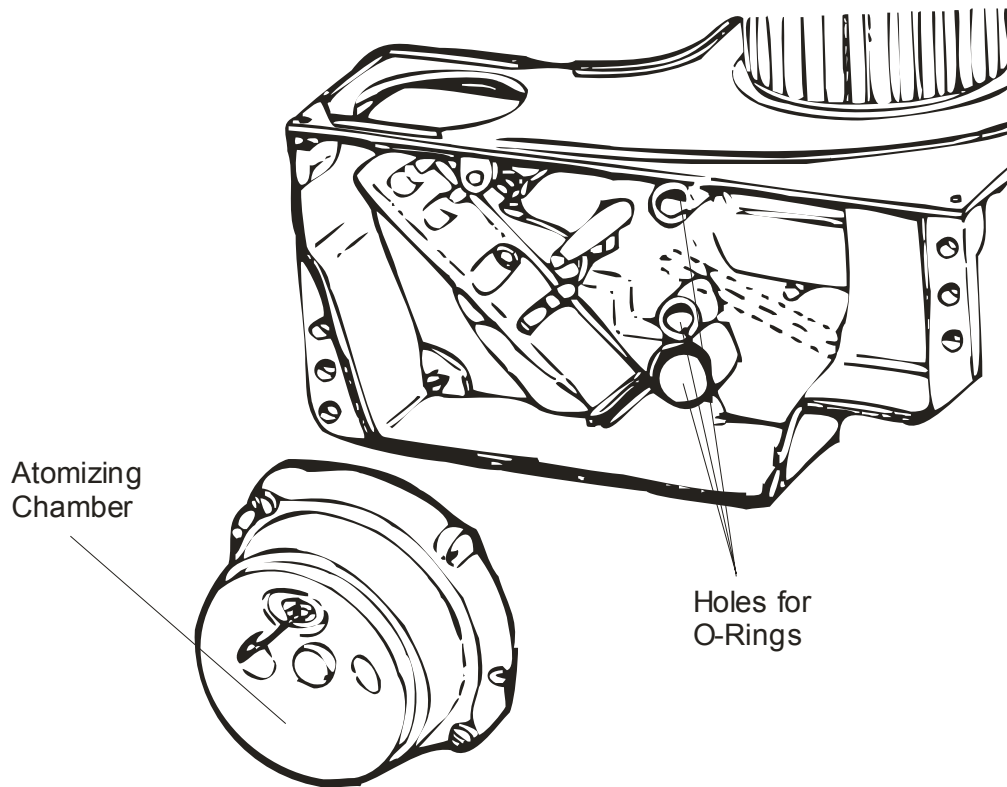

Figure 5-11. Atomizing Chamber Removal
- c. Step 3. Remove the atomizing chamber (figure 5-11) and store in a clean container with a plastic tube connecting the air and fuel connections at the back of the atomizing chamber. Removal and installation of the atomizing chamber does not require tools.